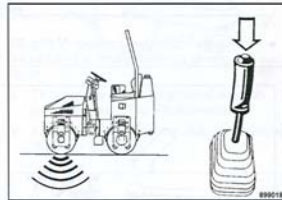

Fig. 35
- Actuate the vibration push button (Fig. 35).